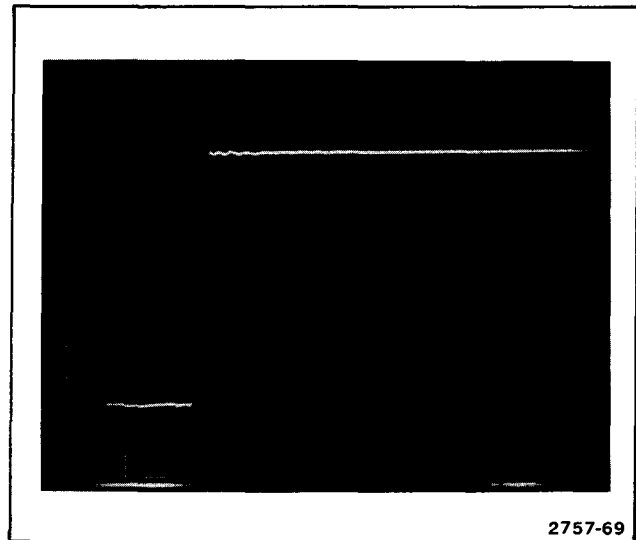

Figure 4-1. Typical display when high-frequency compensation is correctly adjusted.
e. CHECK—Flat-top display aberrations are within 4% (± 0.2 division). See Figure 4-1 for typical display.
c. CHECK—Flat-top display aberrations are within 4% (± 0.2 division). See Figure 4-1 for typical display.